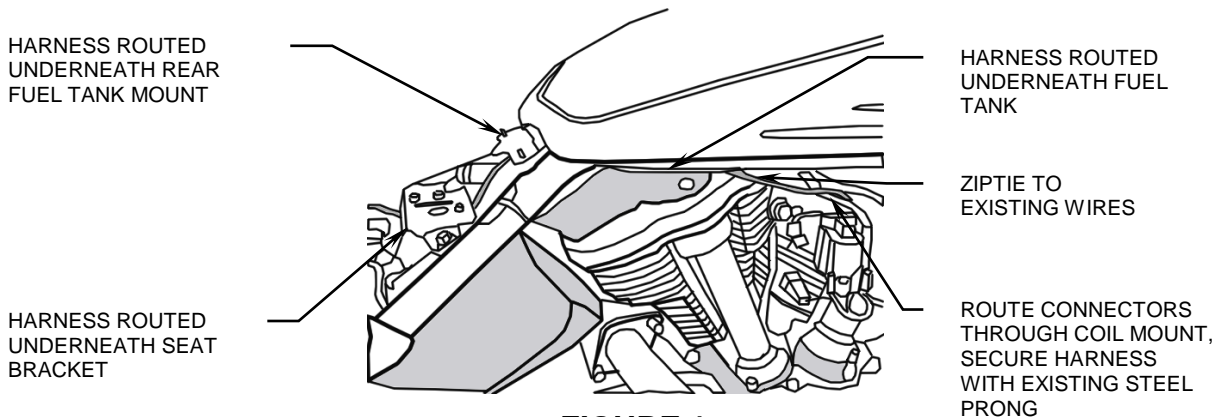

FIGURE 1
2. Position the Fi2000 on top of the ECU (under the seat) and feed the wire harness under the front seat bracket, then feed the harness forward underneath the rear fuel tank mounting bracket. Lift up the fuel tank just enough to slip the wire harness under the rear of the fuel tank, make sure the harness does not get pinched between the fuel tank and the frame as the tank is lowered down, see Figure 1. Zip-tie the harness to the other harnesses under the tank.